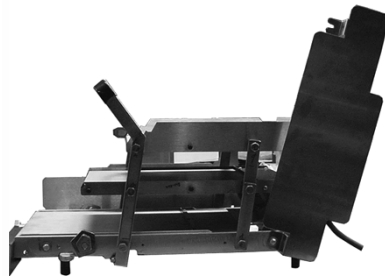

Figure 19
- 2** Remove the side covers, as shown, for further cleaning. (See **Figure 19**.)